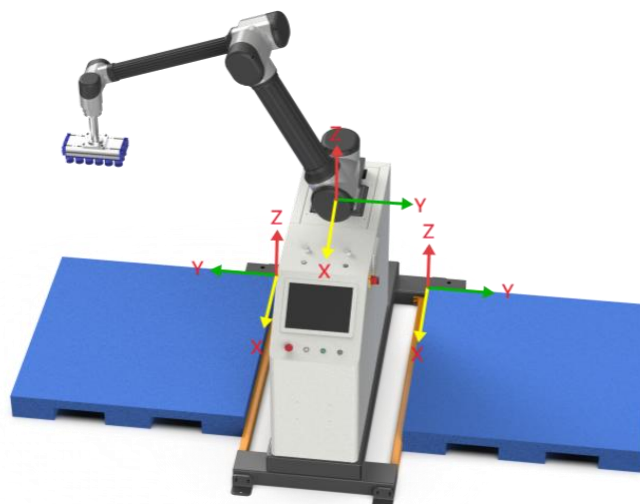

Figure 5-6
Entry point position compensation is based on the pallet coordinate system; compensation values are superimposed on the default entry point position to adjust the entry point. The following explains the compensation values for the left entry point. Left Entry Point Compensation (X): Compensation is applied in the X direction of the left pallet coordinate system; a positive value indicates an offset toward the positive direction X, while a negative value indicates an offset toward the negative direction X. The principles for the Y and Z directions are the same. Left Entry Point Lower Layer Compensation Point Z: This parameter takes effect when the paperboard placement position is lower than the height after the paperboard is grasped; otherwise, the entry point compensation Z is used. The right entry point compensation values are based on the right coordinate system, and the principle is the same as that for the left entry point compensation. Refer to [Figure 5-6] for the pallet coordinate system: